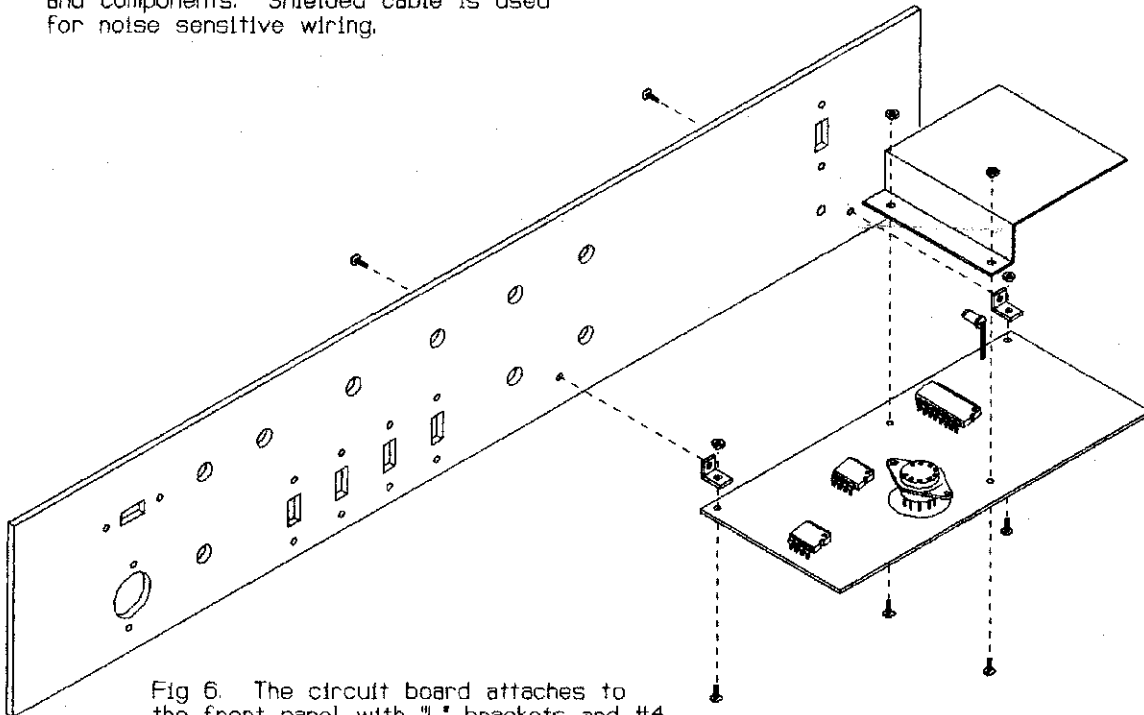

Fig 6. The circuit board attaches to the front panel with "L" brackets and #4 hardware. Do not attach the power supply shield until the unit has been tested.
- () When you're satisfied that everything is working properly, complete assembly by installing the power supply shield using two 4-40 X 1/4" machine screws and two #4 nuts. Tighten this hardware completely. See Fig 6.